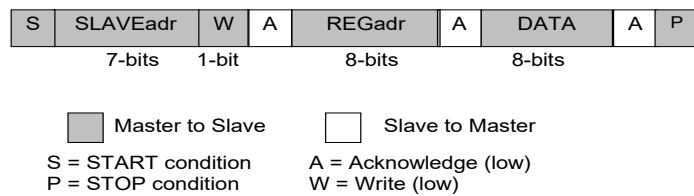
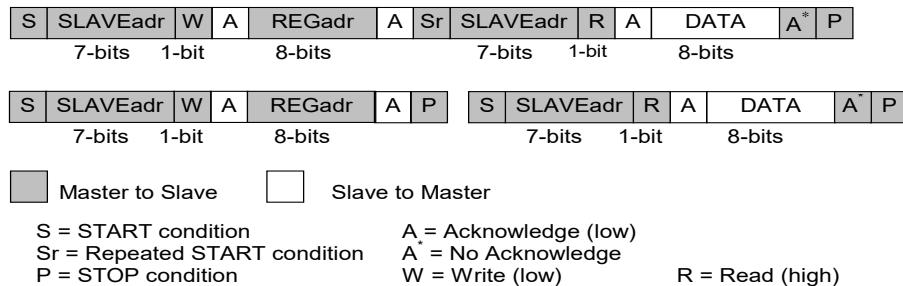

Figure 19: I²C Byte Write (SDA Line)
Figure 20: I²C Byte Read (SDA Line) Examples
The I²C bus is monitored for a valid slave address whenever the interface is enabled. It responds immediately when it receives its own slave address. The acknowledge is done by pulling the SDA line low during the following clock cycle (white blocks marked with A in Figure 19 and Figure 20).
The protocol for a register write from master to slave consists of a START condition, a slave address with read/write bit, and the eight-bit register address followed by eight bits of data, terminated by a STOP condition. DA9121 responds to all bytes with acknowledge (A), see Figure 19.
When the host reads data from a register it first has to write to DA9121 with the target register address and then read from DA9121 with a repeated START, or alternatively a second START, condition. After receiving the data, the host sends no acknowledge (A^*) and terminates the transmission with a STOP condition, see Figure 20.